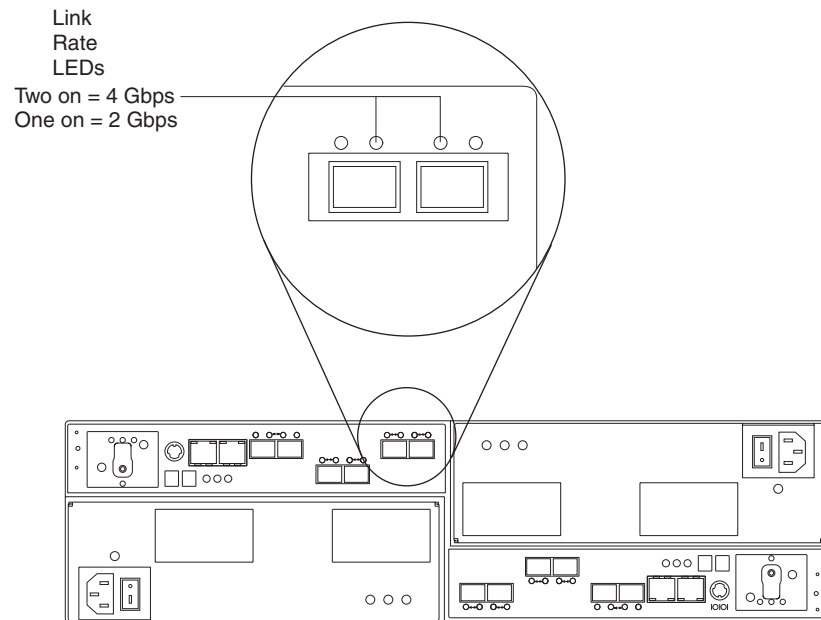

Figure 83. Link rate LEDs
2. Locate the link rate indicator LEDs. Figure 83 shows the location of the link rate indicator lights on the back of the storage subsystem.
4. Locate the link rate switch. Figure 83 shows the location of the link rate indicator light on the front of the command module.